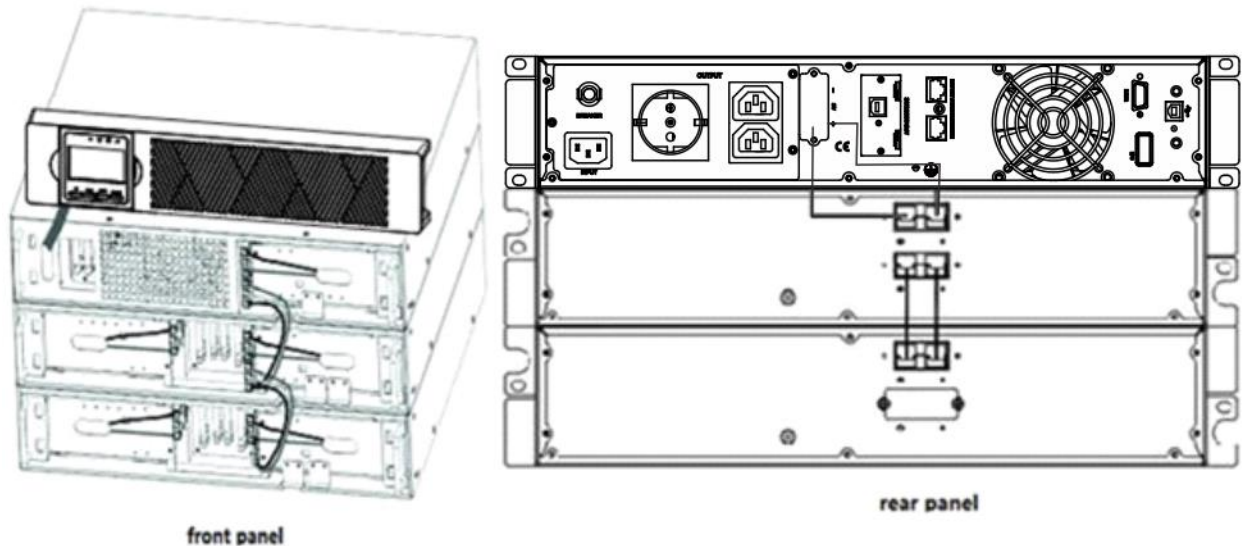

Figure 10 Typical EBP Installation
c) For the bottom (or only) EBP, remove the EBP cable knockout on the top of the EBP front cover. See Figure 10 for the location of the top EBP cable knockout.
d) If you are installing more than one EBP, for each additional EBP remove the EBP cable knockout on the top and bottom of the EBP front cover. See Figure 10 for the location of the EBP cable knockouts.
e) Plug the EBP cable(s) into the battery connector(s) as shown in Figure 10. Up to four EBPs may be connected to the UPS. Connect black to black. Press the connector tightly together to ensure a proper connection.